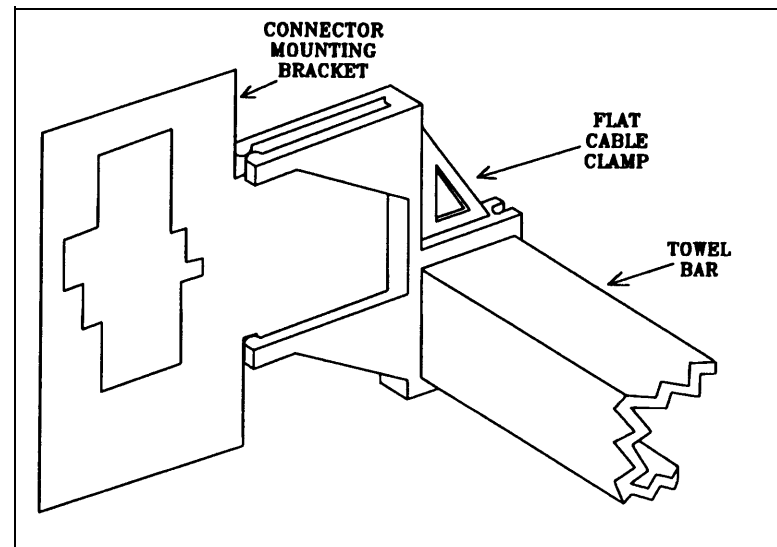

Figure 30-85. Connector Mounting Bracket
- b. Attach the connector mounting bracket (846444289) to the black plastic flat cable clamp as shown in Figure 30-85.